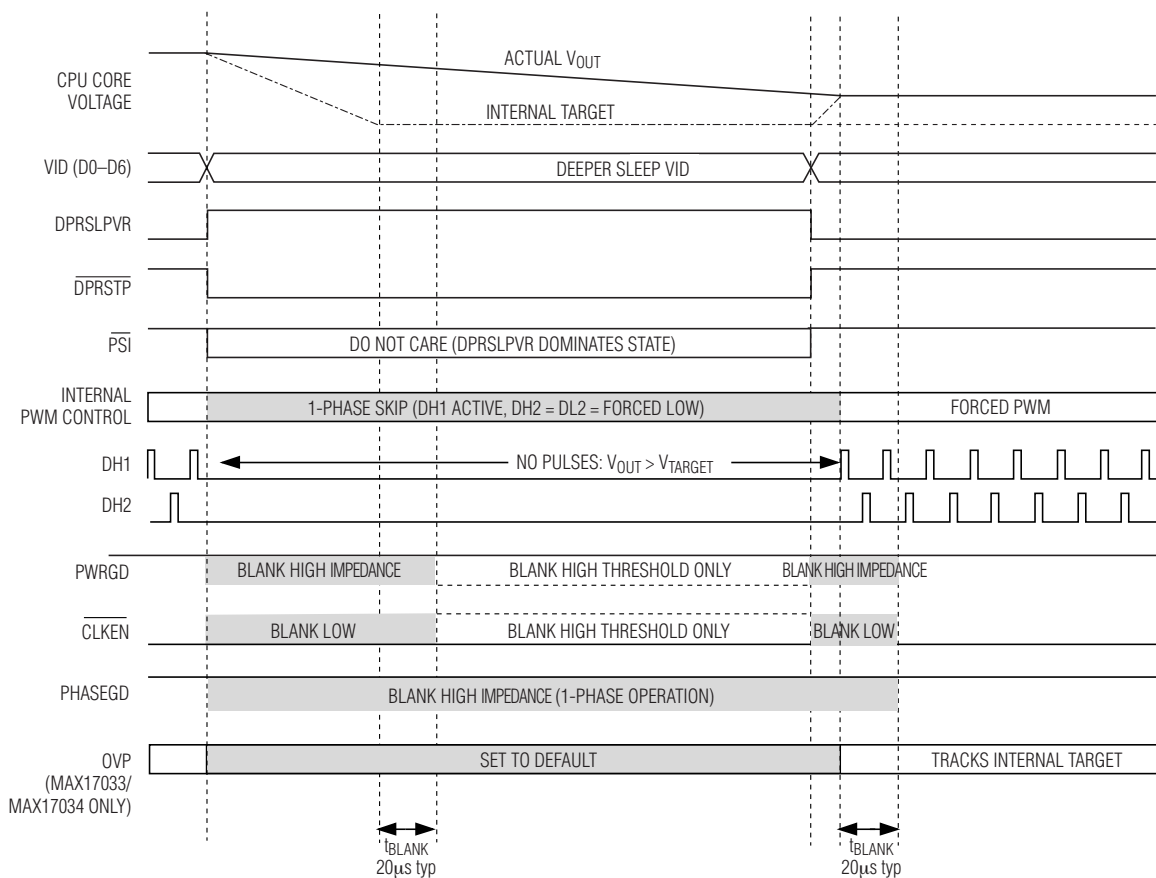

Figure 5. C4E (C4 Early Exit) Transition
When DPRSLPVR goes high, the MAX17033/MAX17034/MAX17434 immediately disable phase 2 (DH2 and DL2 forced low), blank PHASEGD high impedance, and enter pulse-skipping operation (see Figures 5 and 6). If the VIDs are set to a lower voltage setting, the output drops at a rate determined by the load and the output capacitance. The internal target still ramps as before, and PWRGD remains blanked high impedance until 20μs after the output voltage reaches the internal target.
- **Fast C4E Deeper Sleep Exit:** When exiting deeper sleep (DPRSLPVR pulled low) while the output voltage still exceeds the deeper sleep voltage, the MAX17033/MAX17034/MAX17434 quickly slew (50mV/μs min regardless of R_{TIME} setting) the internal target voltage to the DAC code provided by the processor as long as the output voltage is above the new target. The controller remains in skip mode until the output voltage equals the internal target. Once the internal target reaches the output voltage, phase 2 is enabled. The controller blanks PWRGD, PHASEGD, and CLKEN until 20μs after the transition is completed. See Figure 5.